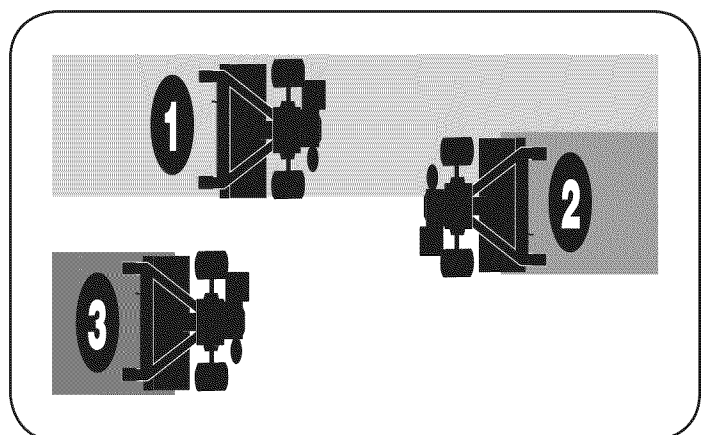

Figure 15
- If the garden size will not permit lengthwise and then crosswise tilling, then overlap the first passes by one-half a tiller width, followed by successive passes at one-quarter width. See Figure 15.